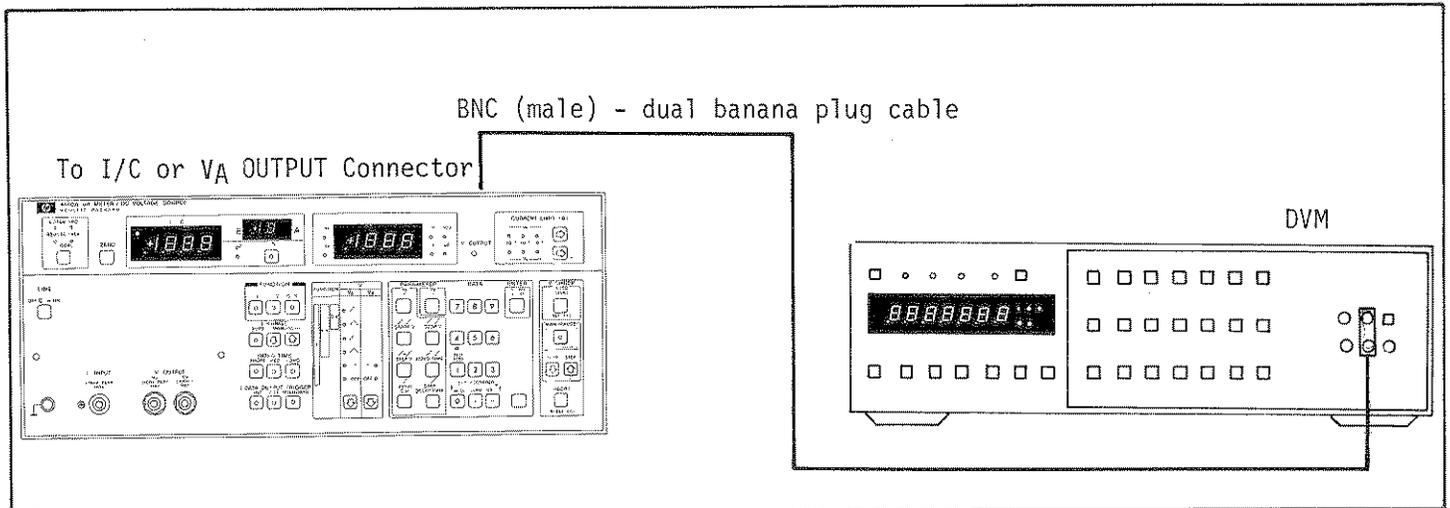

Figure 4-8. Analog Output Accuracy Test Setup.
1. Connect BNC (male) - dual banana plug cable between the 4140A Option 001 V_A Output connector on rear panel and the DVM (see Figure 4-8).